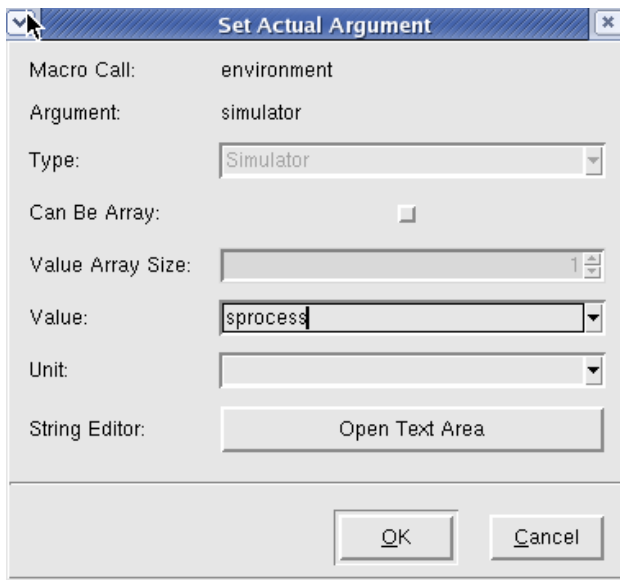

Figure 33: Setting the argument of the simulator to sprocess.
4. Double click on simulator and set it to sprocess (Figure 33).